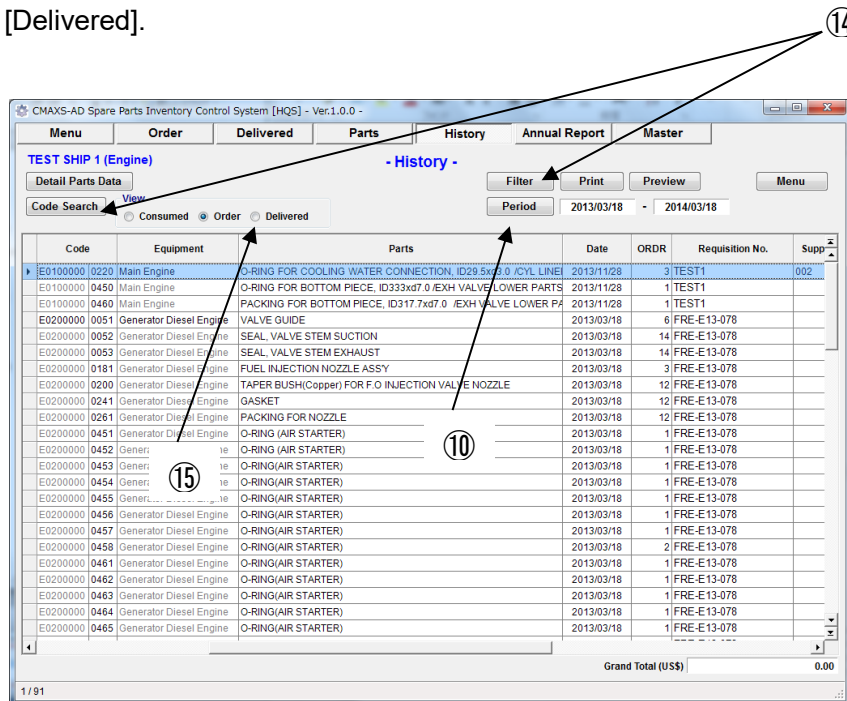

Fig.10-4 History [Order Parts] Screen
(9) "History" (Ordered Parts)Screen"(Fig.10-4) is displayed.